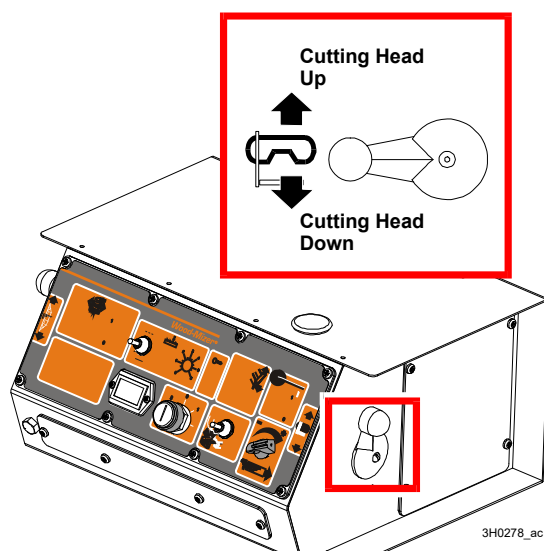

FIG. 2-25.
**See Figure 2-25.** The up/down switch is located on the far right side of the control panel. Push the switch up to raise the cutting head; push the switch down to lower the cutting head. Hold the switch in position until the cutting head reaches the desired height, then release.